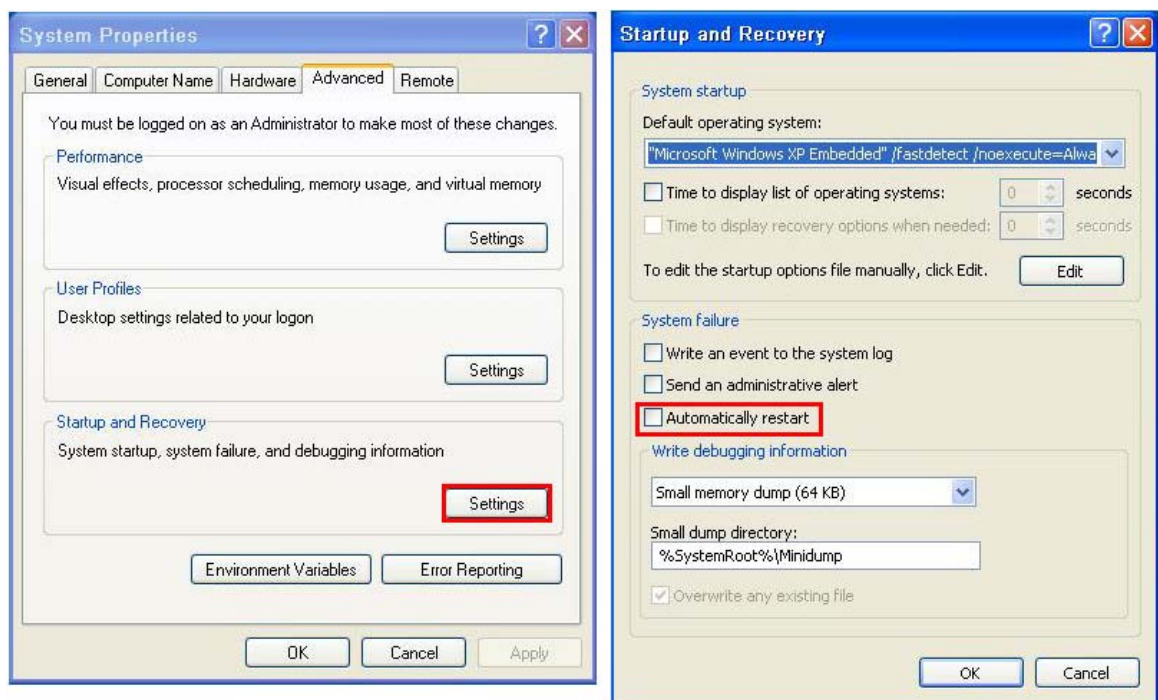

Figure B-23: Disable Automatically Restart
Step 3: **Disable the automatically restart function before creating the factory default image.** Go to: My Computer → Properties → Advanced. Click the Settings button of Startup and Recovery. Deselect “Automatically restart”. Click OK to save the settings and exit. (See **Figure B-23**)